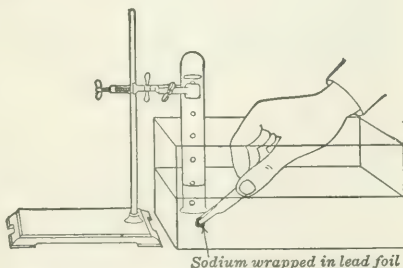

Fig. 24. Collecting the gas evolved from sodium and water.
d. Wrap a clean, freshly cut piece of sodium (about 3 mm. in diameter) in dry lead foil (tea lead). Punch several holes in the lead with a knife blade. Holding the lead in forceps, quickly slip it under the mouth of an inverted large test tube filled with water (Fig. 24). If necessary, use another piece of sodium wrapped in lead to complete the filling of the tube. If the sodium escapes from the lead covering, stand aside.